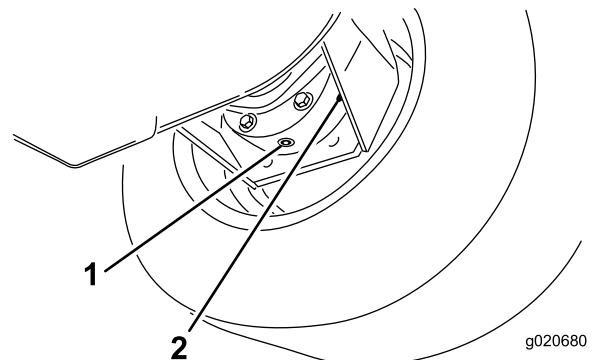

Figure 63
3. Place a drain pan under the brake housing, remove the drain plug, and allow the oil to drain (Figure 63).